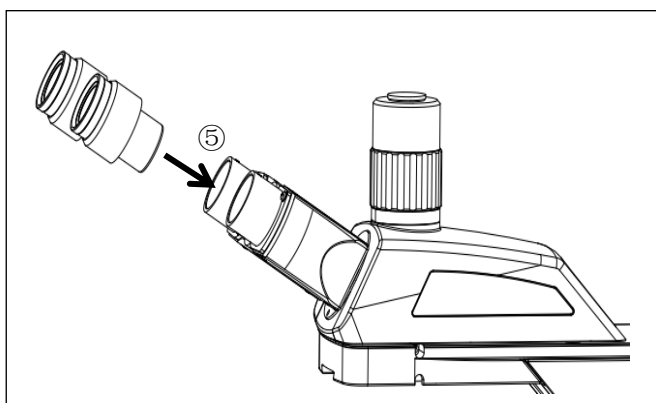

Fig.6
3-2-4 Install the Eyepiece (Fig.6)
1. Inserts the eyepiece into the watch holder by the serial number in Fig.6 to the face.